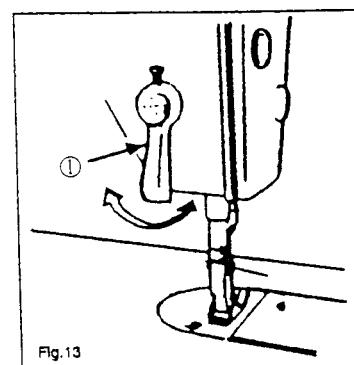

Fig.13
11. Presser Bar Lifter (Fig. 13)